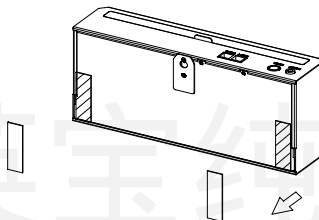

Figure 4.4 Paste diagram
- 3) Remove the 3M strong adhesive tape release paper on the back of the sterilizer. As shown in Figure 4.4;